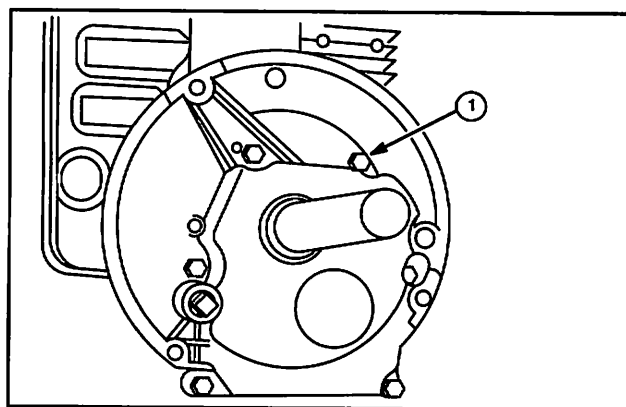

Fig. 47
2. Install sump and gasket being sure the screw that enters the breather chamber has nonhardening sealant on threads such as Permatex® II, (See Fig. 47).
NOTE: On right angle auxiliary drive power take-off models, screw (1) does not need sealant, but the four screws holding the gear sump cover require sealant, Fig. 47.
5. Place non-hardening sealant on screw (1) that enters the breather chamber, Fig. 47, such as Permatex® II, and install sump screws.